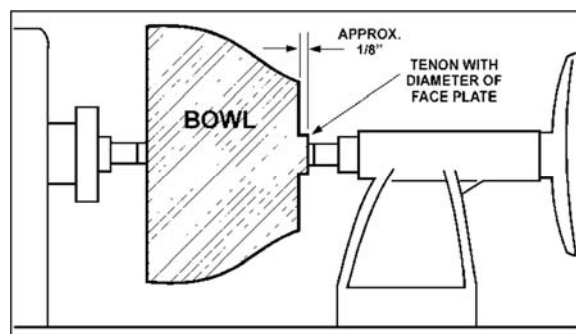

Figure 26
8. Turn a short tenon (about 1/8" long) the size of the hole in the faceplate. See Figure 26. This will allow centering the workpiece when the faceplate is attached.